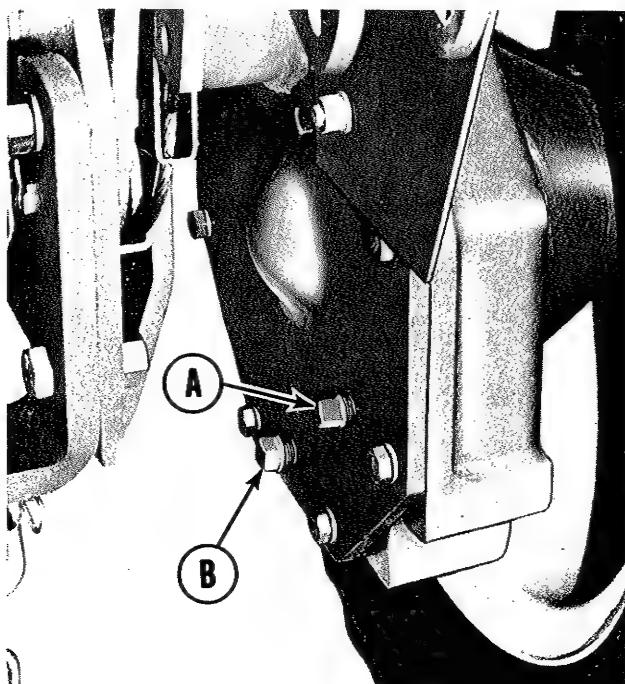

Figure 30. Drop housing shown from rear of tractor.
CHECK DROPHOUSING OIL LEVEL: See figure 30. Remove the oil level plug (A) from each of the two drop housings to check the oil level. The oil should be even with the lower threads in the plug hole. If oil must be added to bring the oil level up to the threads, add SAE 90 transmission grease through the check plug hole. If it should be necessary to drain the drop housings the drain plug (B) may be removed.